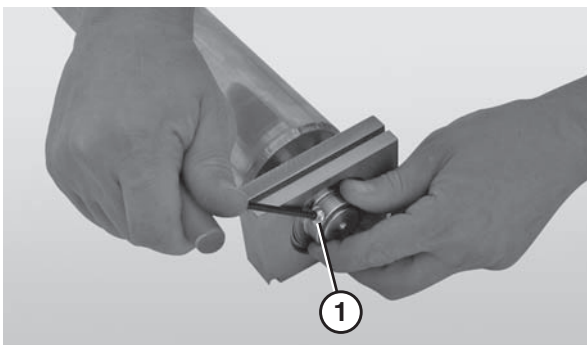

Figure 96
3. Use a 4 mm hex wrench to remove the button head screws that connect the bearing to the spindle (**Figure 96, item 1**).